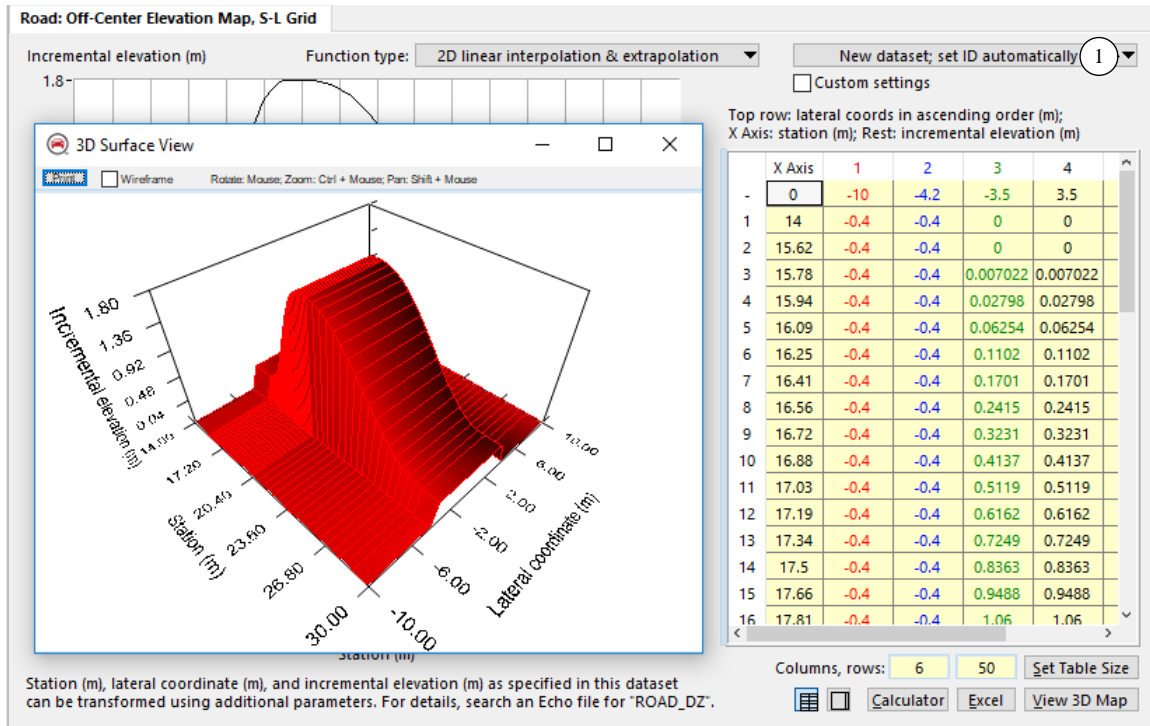

Figure 29. Road Off-Center Elevation, S-L Grid.
Use this screen to specify an incremental contribution dZ using the Configurable Function `ROAD_DZ`. This screen has a standard VS Browser interface to a Configurable Function (Figure 29), with one additional setting ① to set an ID for the dataset. The `ROAD_DZ` function can be configured to provide a constant, a linear coefficient, a 1D interpolation involving only S , or a 2D interpolation involving S and L .